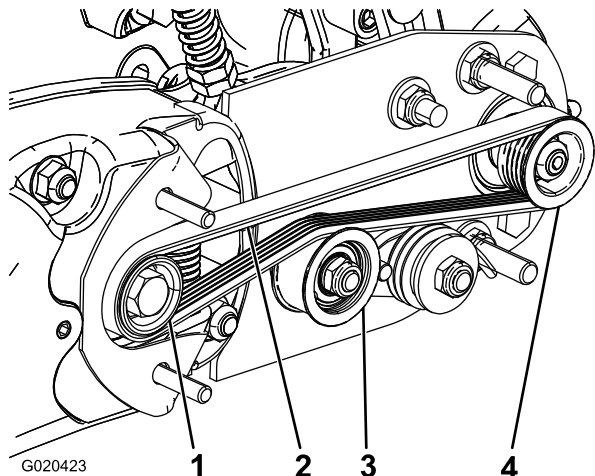

Figure 24
- A. Loop the belt around the **drive** pulley and then over the top of the idler pulley (Figure 24).
- B. Start the belt on the **driven** pulley (Figure 24).